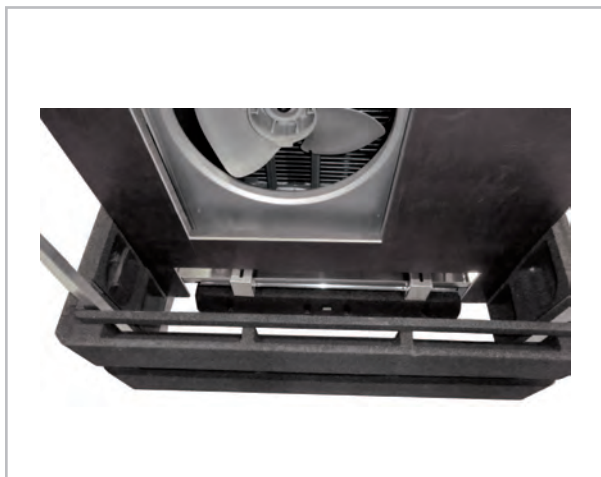

Fig. 22
- 13.** Insert the air inlet baffle plate with the foam insulation side to the inside towards the outdoor unit. The baffle plate for the air inlet must rest with the supporting feet at the bottom on the aluminium frame (Fig. 22).